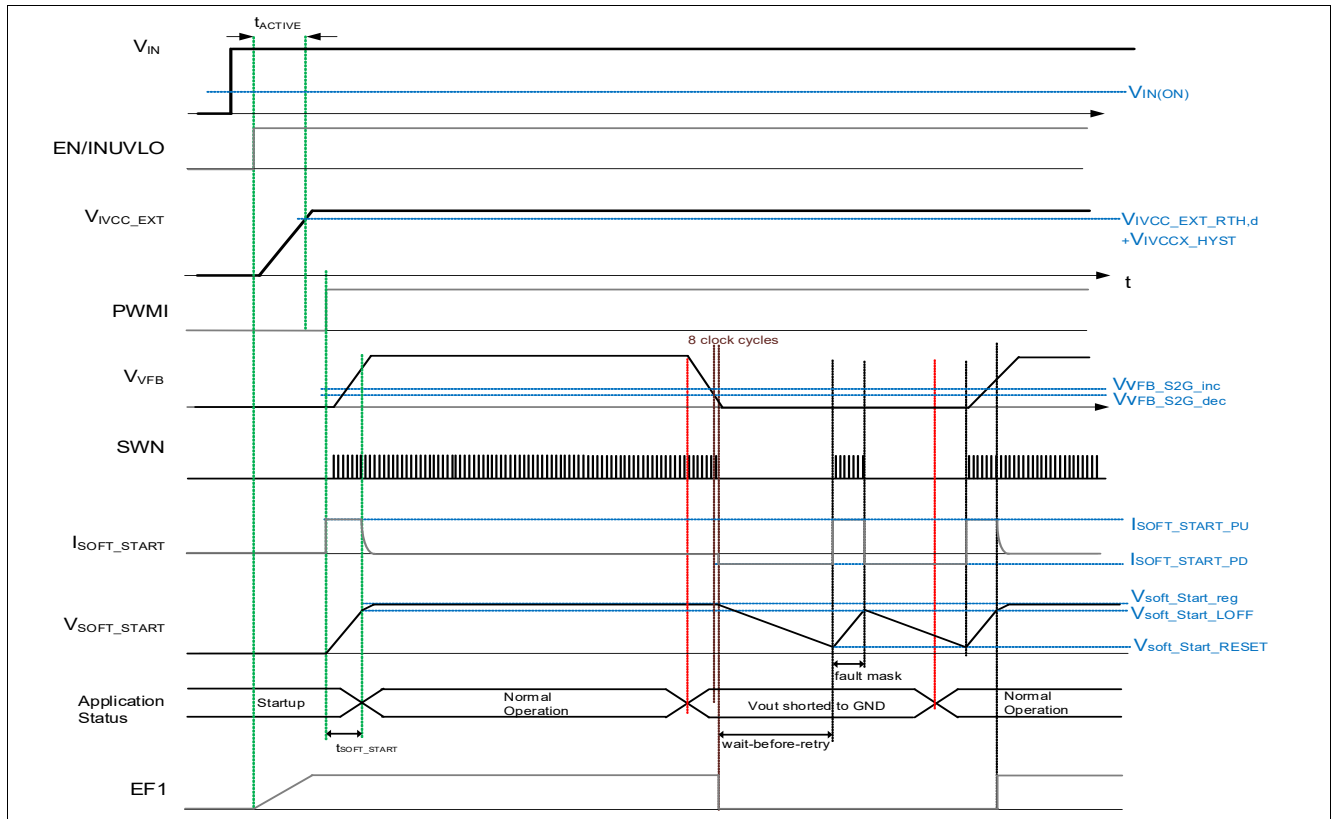

Figure 8 Soft Start timing diagram on a short to ground detected by the VFB pin
- Fault management: fault mask and wait-before-retry time (**Figure 8** and chapter **Chapter 10.2**)
If an open load or a short circuit on the output is detected, a pull-down current source $I_{\text{SOFT_START_PD}}$ (P_6.4.20) is activated. This current brings down the $V_{\text{SOFT_START}}$ until $V_{\text{SOFT_START_RESET}}$ (P_6.4.22) is reached. Afterwards the pull-up current source $I_{\text{SOFT_START_PU}}$ (P_6.4.19) turns on again. If the fault condition hasn't been removed until $V_{\text{SOFT_START_LOFF}}$ (P_6.4.21) is reached, the pull-down current source turns back on again, initiating a new cycle. During the soft start rise time the device is switching, during fall time the device is halted (**Figure 8**). This hiccup mode will continue until the fault is removed.